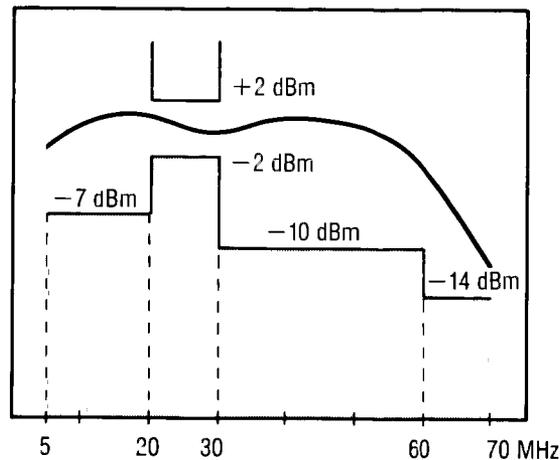

Figure 5-22. IF Frequency Response Limits
16. Slowly tune the Sweep Generator using the rotary knob while monitoring the display on the Spectrum Analyzer. (Maximum hold may be used on the Spectrum Analyzer to trace out the IF response as the frequency is changed.) Verify that the IF frequency response falls within the limits shown in Figure 5-22. If it does not, select new values for A48C22 and A48R22 to adjust the shape of the response (particularly in the 20 to 30 MHz region). Readjust A48R1 IF GAIN control if necessary.